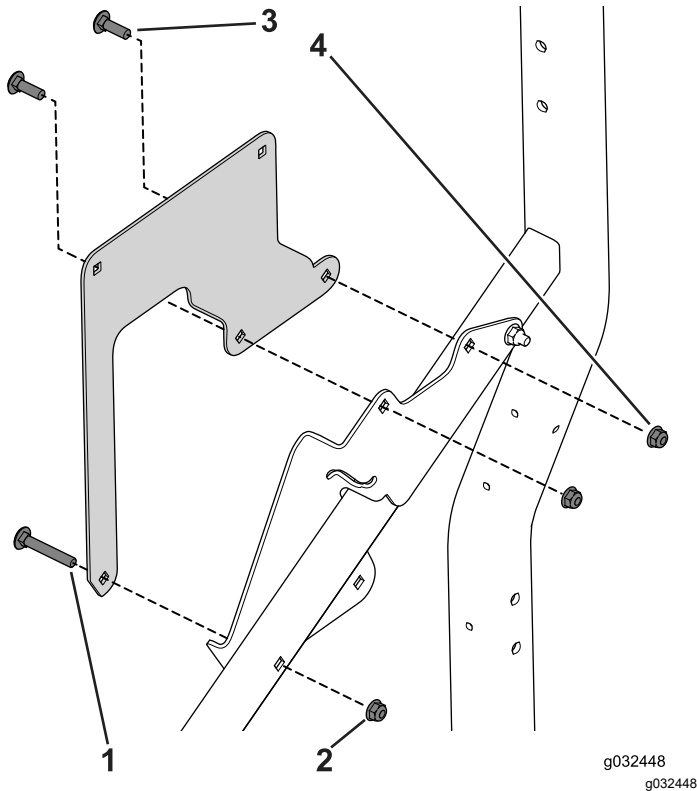

Figure 33
1. Use the 3 carriage bolts (5/16 x 2 inch), (5/16 x 1 inch), and 3 flange nuts to secure the bracket to the frame (Figure 33).